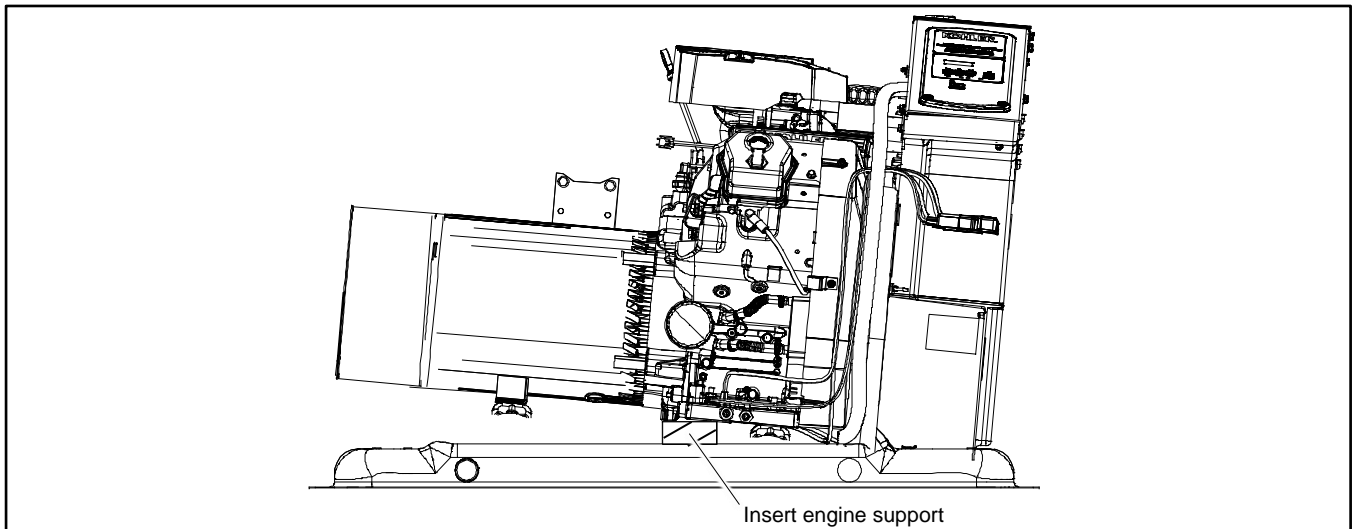

Figure 119 Insert Wood Support for Engine
23. Raise the alternator end of the generator set enough to place a wood support beneath the rear of the engine. The wood support must be long enough to span the opening in the base. See Figure 119.